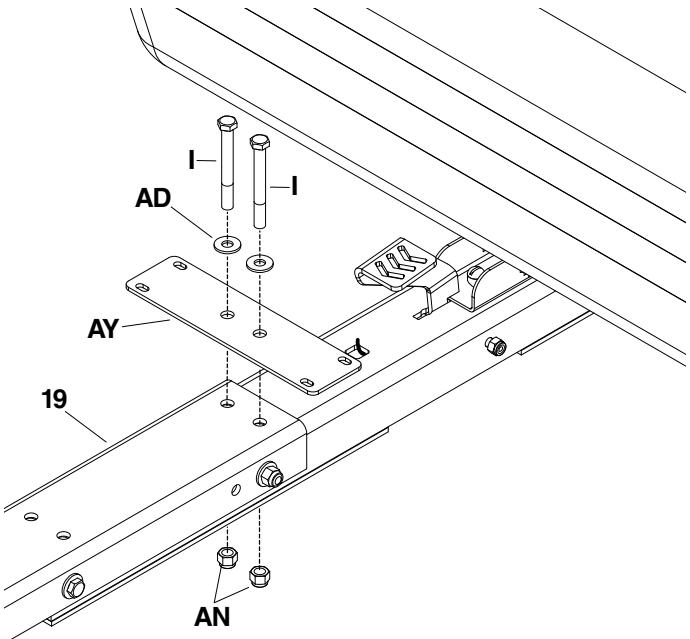

FIGURE 16
- Place the battery box bracket strap (AY) over the rear most holes on the front tongue assembly (19).
- Install a 7/8" washer (AD) onto a 3/8" x 3-1/4" bolt (I) and install into the hole on the battery box bracket strap (AY). Repeat on other hole.
- Secure each 3/8" x 3-1/4" bolt (I) with a 3/8" nylock nut (AN). Tighten hardware. See figure 16.